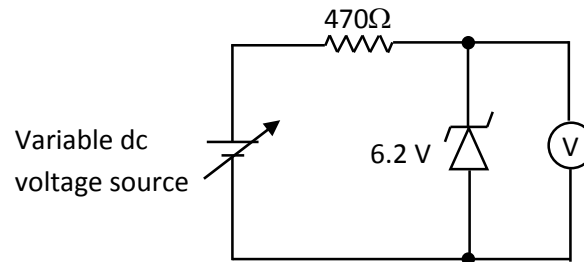

Figure 9: Circuit diagram of the reverse bias zener diode
9. Connect the circuit shown in Figure 9.